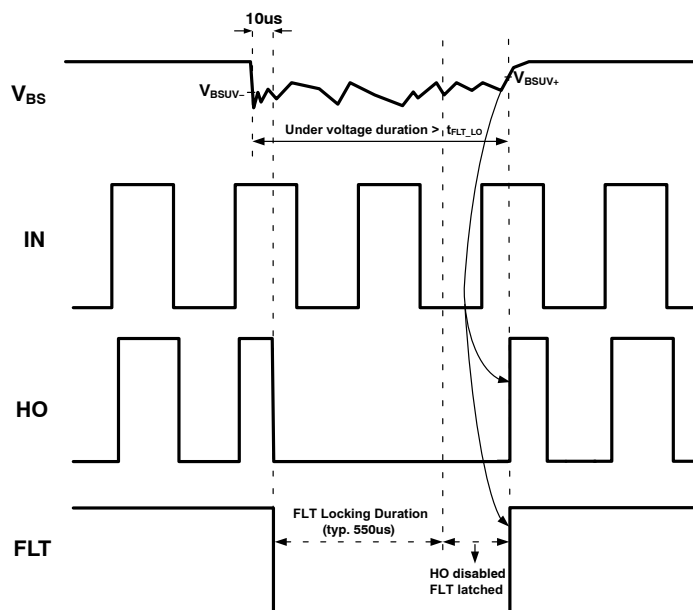

Figure 18. Under-Voltage Condition Longer than FLT Locking Duration
- ♦ If the under-voltage condition lasts for a duration longer than the FLT locking duration, the fault pin is released only after the under-voltage condition has disappeared. The driver output will begin to follow the input logic once the fault pin is released (see Figure 18).